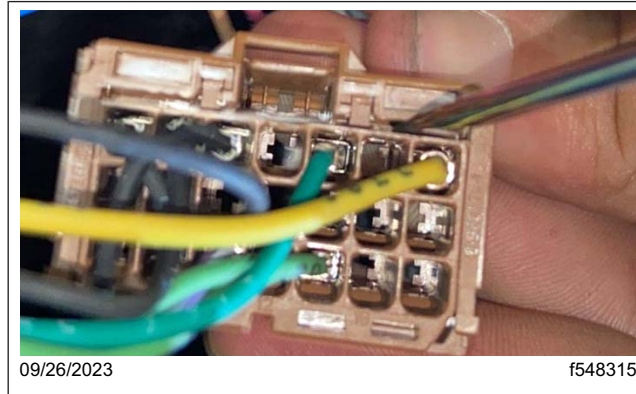

Fig. 46, Unlocking the XMC2 X3 Connector
- 17.1 Use a small flat screwdriver to gently pry up the top of the X3 connector, and unlock the connector, as shown in **Fig. 46**.